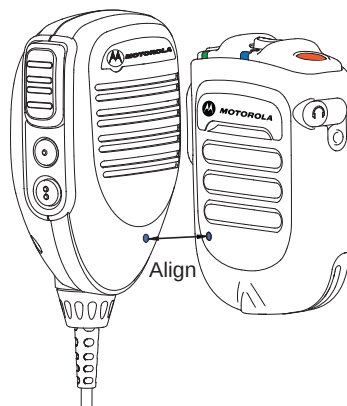

Figure 2.10: Pairing your WRSM
- 2 Place the blue dot (secure pairing spot) on the WRSB within one inch of the blue dot (secure pairing spot) on the Mobile Mic Gateway. Refer to Figure 2.10.